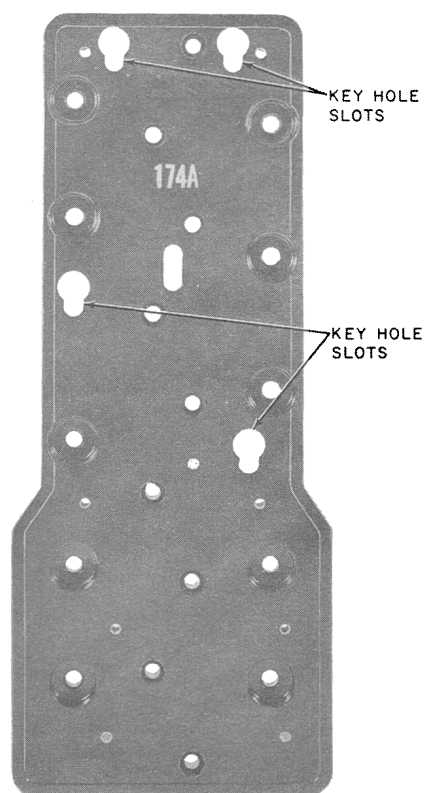
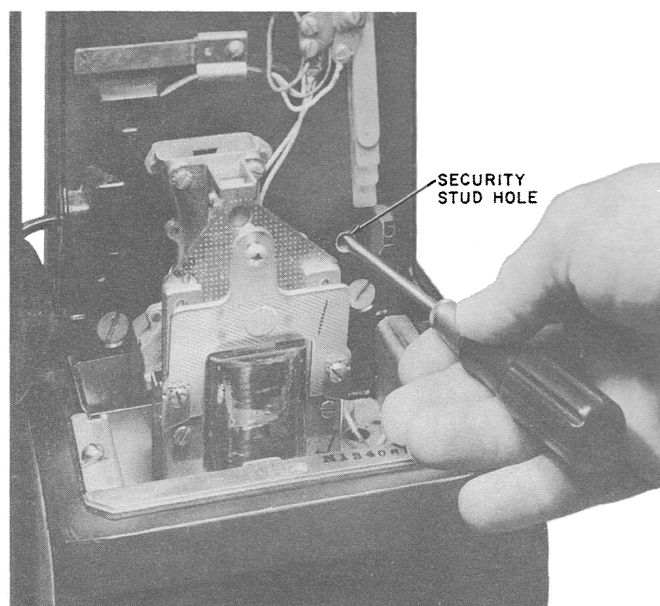

Fig. 22 — 174A Backboard With Four Keyhole Slots for Security Studs and Bolt Fastener
Fig. 21 — Method of Determining if Mounting Surface is Equipped With Four Keyhole Slots
- If a security stud is absent in the lower right security stud hole, place a small-bladed screwdriver in this hole (Fig. 21). If blade enters to a depth of at least 3/4-inch, a keyhole slot is present (Fig. 22) and the appropriate bolt or stud fastener can be used. If the slot is missing, use stud fastener, or modify, or replace mounting surface to permit use of a bolt fastener.